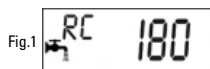

Fig.1
- Fig. 1: "consumed" reserve, 180 litres remaining (or available ?)